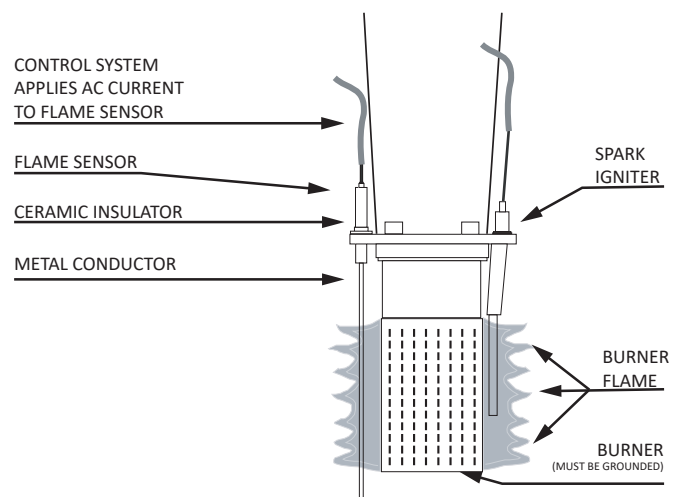

Figure 8. Flame Sensor and Burner
- Remove the connector from flame sense rod. See **Figure 8** for location of flame sensor.